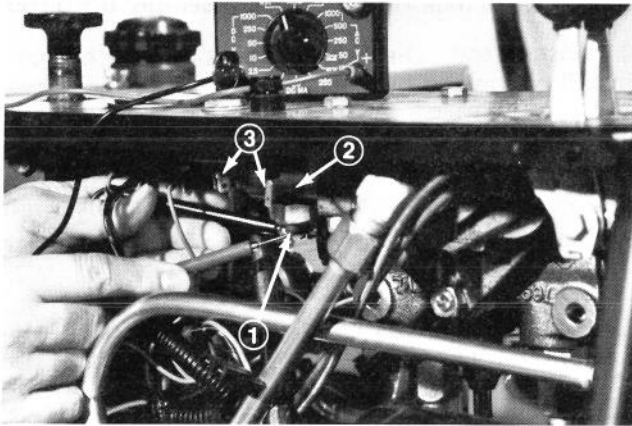

Figure 112
2. Connect each end of meter leads to each switch terminal and check switch continuity with Mow-Backlap lever in MOW and BACKLAP positions and in OFF position (Fig. 112). Switch should indicate continuity with lever in OFF position. Switch should not indicate continuity when lever is in MOW or BACKLAP position.
2. Connect ohm meter leads to switch terminals and check for continuity (Fig. 112). Switch should indicate continuity when lever is in OFF position and should not indicate continuity when lever is in MOW or BACKLAP position.